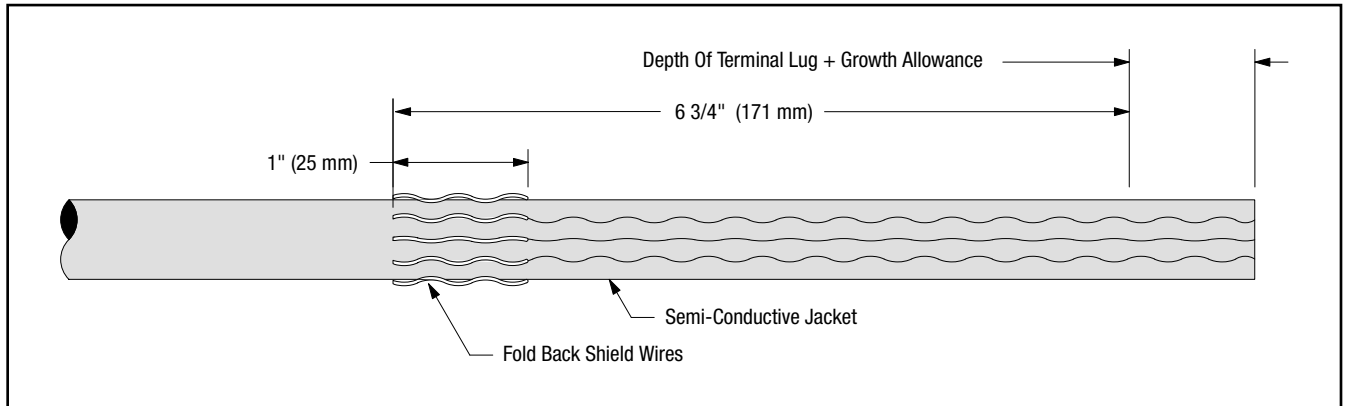

Figure 17
12.4 Remove constant force spring. Bend shield wires back upon cable jacket 1" (25 mm). Cut excess shield wire and discard (*Figure 17*).